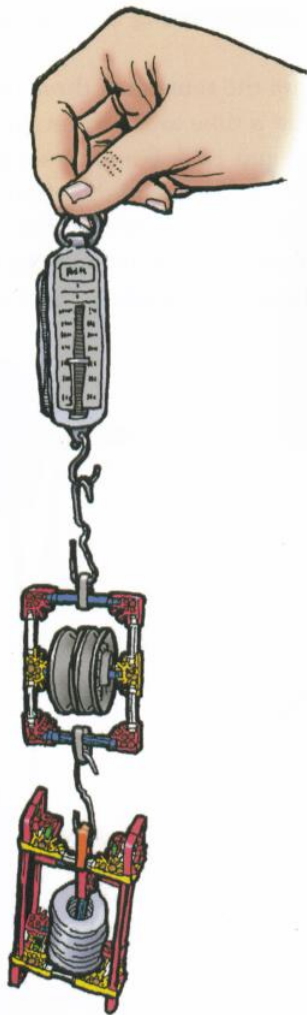

Figure 12.3 Weighing the movable pulley assembly and sled
2. Attach the sled to the movable pulley assembly. Weigh the movable-pulley-and-sled combination (see Figure 12.3). To lift the pulley assembly, what load force must you exert? Record the load force in Table 1 on Student Sheet 12.1: How Is a Pulley System Used To Do Work?